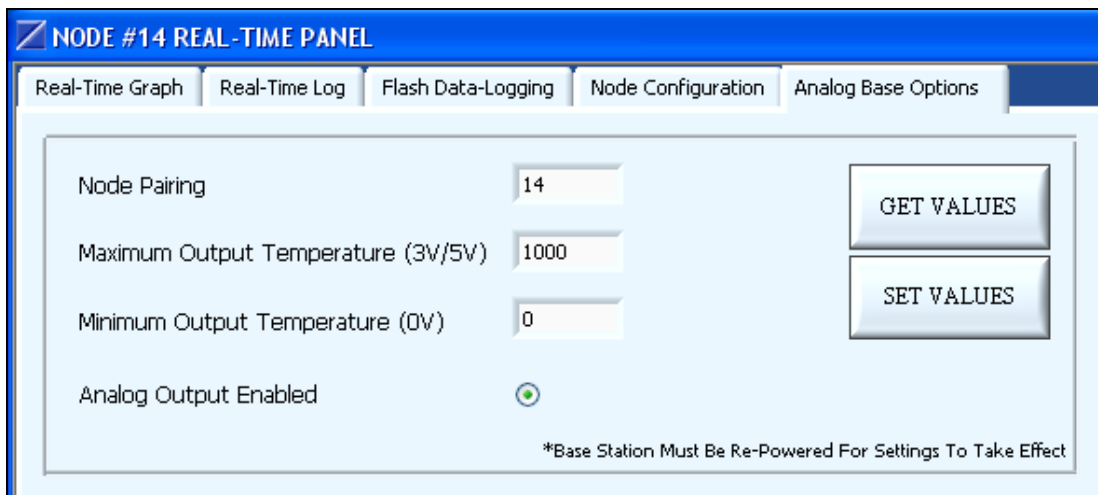

Figure 13
- Click the Get Values button and the current settings of the TC-Link® will be captured as shown in **Figure 13**.